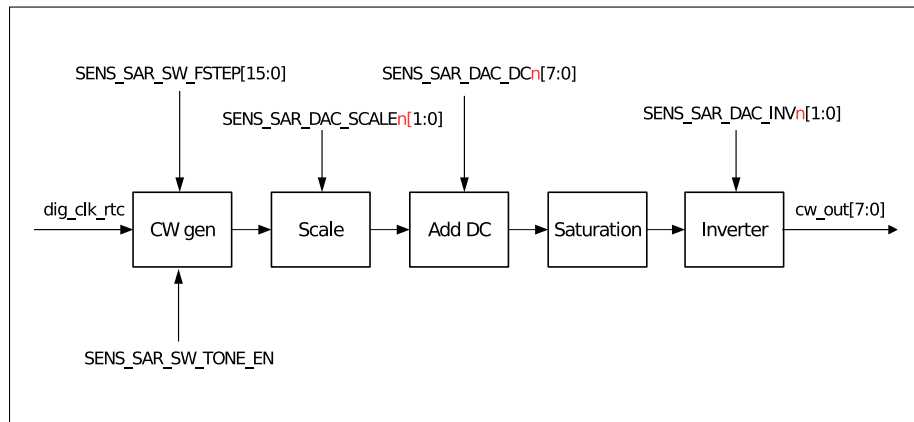

Figure 136: Cosine Waveform (CW) Generator
The cosine waveform (CW) generator can be used to generate a cosine / sine tone. A diagram showing cosine waveform generator's function is presented in Figure 136.